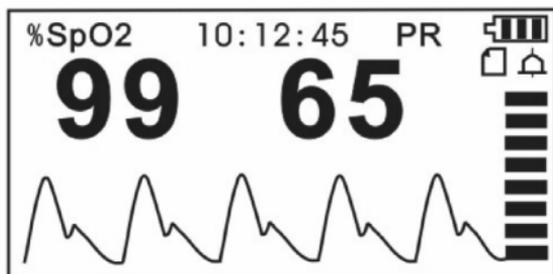
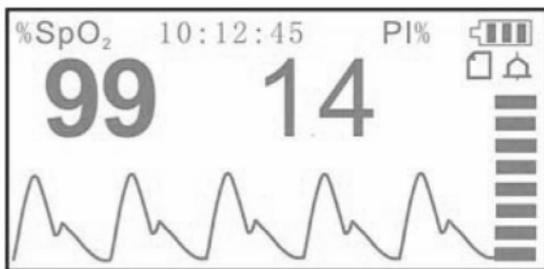

Figure 6
Figure 7
**(Mode/OK key)**: shift screens among four screens (as shown in Figure 6, Figure 7, Figure 8A and Figure 8B.)